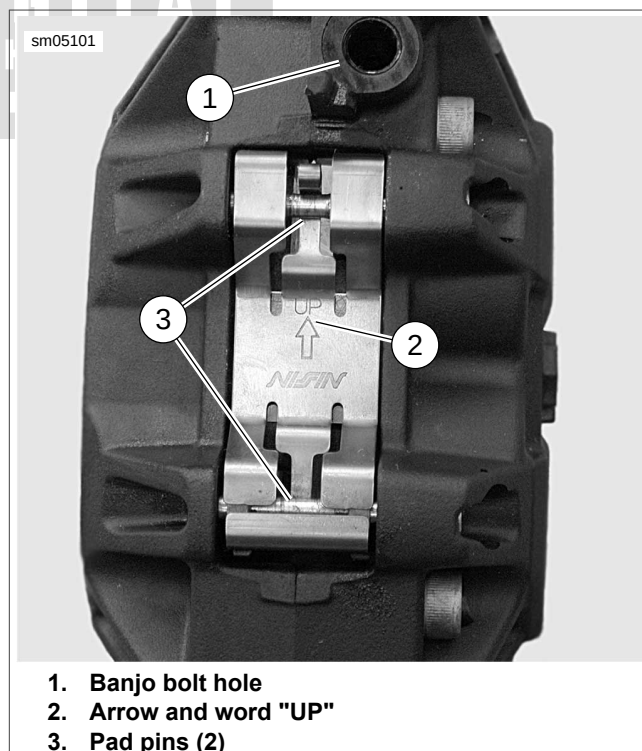

Figure 2-81. Front Caliper Pad Spring Orientation
6. See Figure 2-81. Install brake pads and pad spring. Verify the spring is oriented as shown with the arrow and word "UP" (2) facing the banjo bolt hole (1). Secure with pad pins (3).